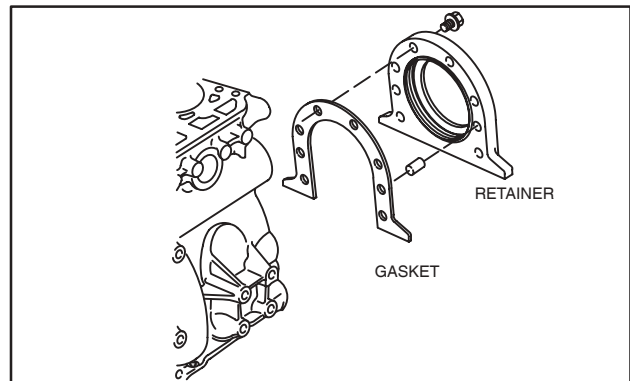

Fig. 6 – Installing Seal Retainer
1. Install rear seal retainer with new gasket, Fig. 6.